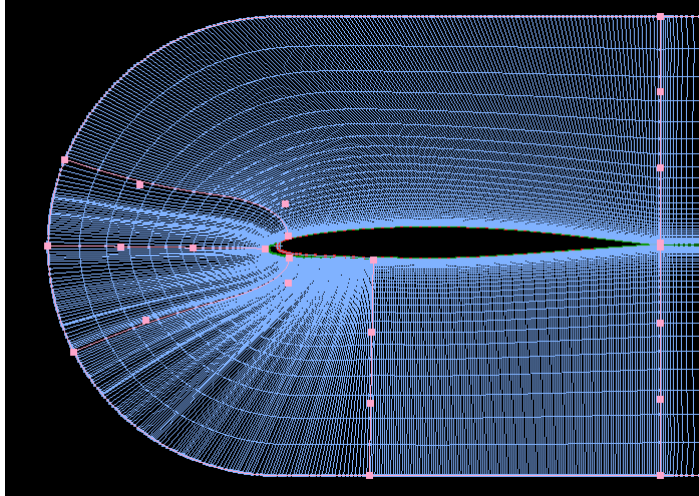

Figure 23. Radial cuts shaped using critical points.
- Move the critical points to approximate those shown below in Figure 23.